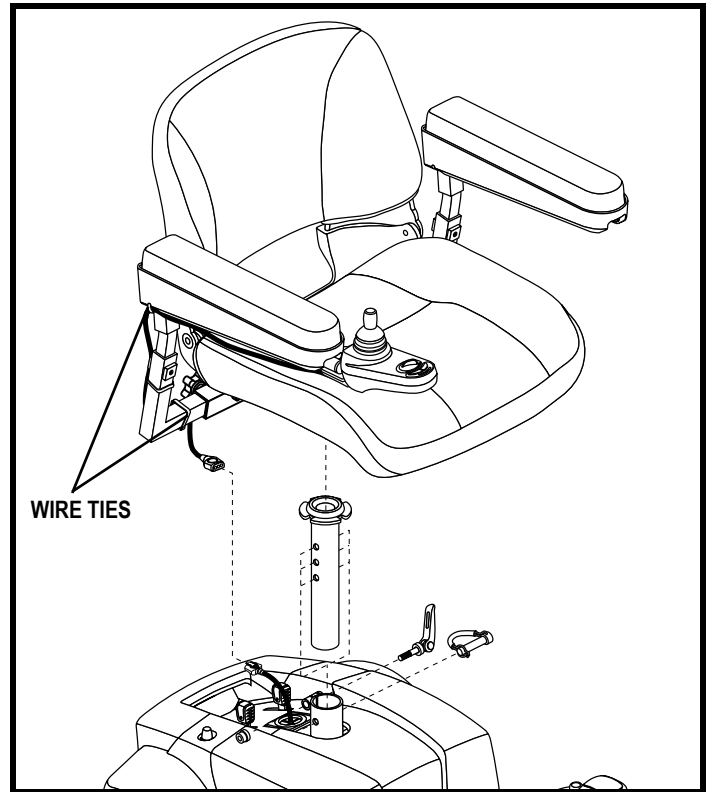

Figure 9. Seat Installation
2. Set the seat onto the seat pedestal. See figure 9.
4. Lift the armrest straight up, then route the controller harness and secure with wire ties as shown in figure 9.